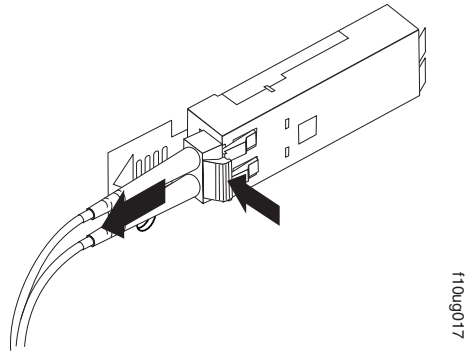

Figure 29. Removing the LC-LC fibre-channel cable
2. Carefully pull on the connector to remove the cable from the SFP module, as shown in Figure 29 on page 57.